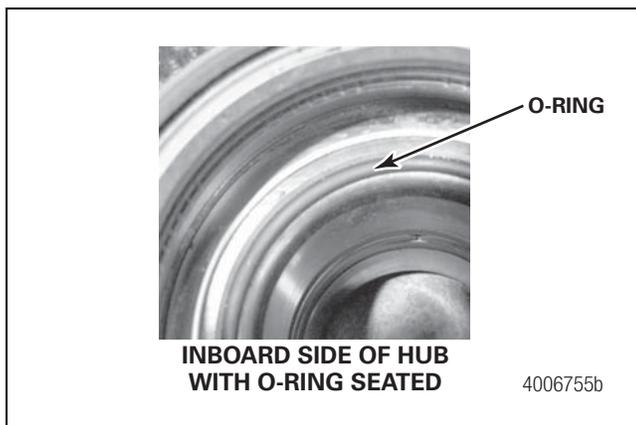

Figure 12
1. Ensure the O-ring (part number AM1205Q2747) between the bearing cartridge and the spindle shoulder is inserted into the groove and in place when the hub is installed. Figure 12.